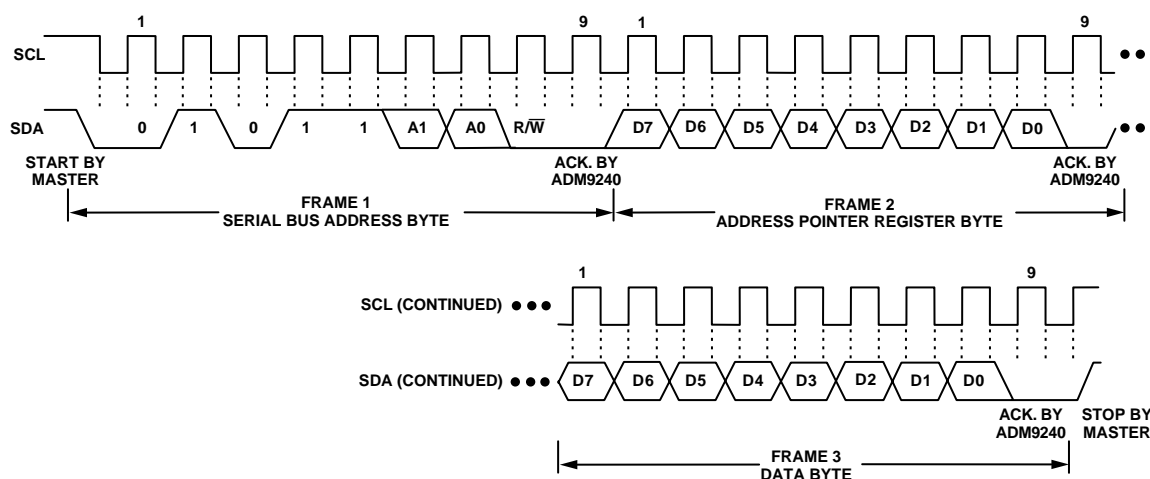

Figure 2a. Writing a Register Address to the Address Pointer Register, then Writing Data to the Selected Register
This is illustrated in Figure 2a. The device address is sent over the bus followed by R/\overline{W} set to 0. This is followed by two data bytes. The first data byte is the address of the internal data register to be written to, which is stored in the Address Pointer Register. The second data byte is the data to be written to the internal data register.
2. In Figures 2a to 2c, the serial bus address is shown as the default value 01011(A1)(A0), where A1 and A0 are hardwired to either Logic 0 or Logic 1.